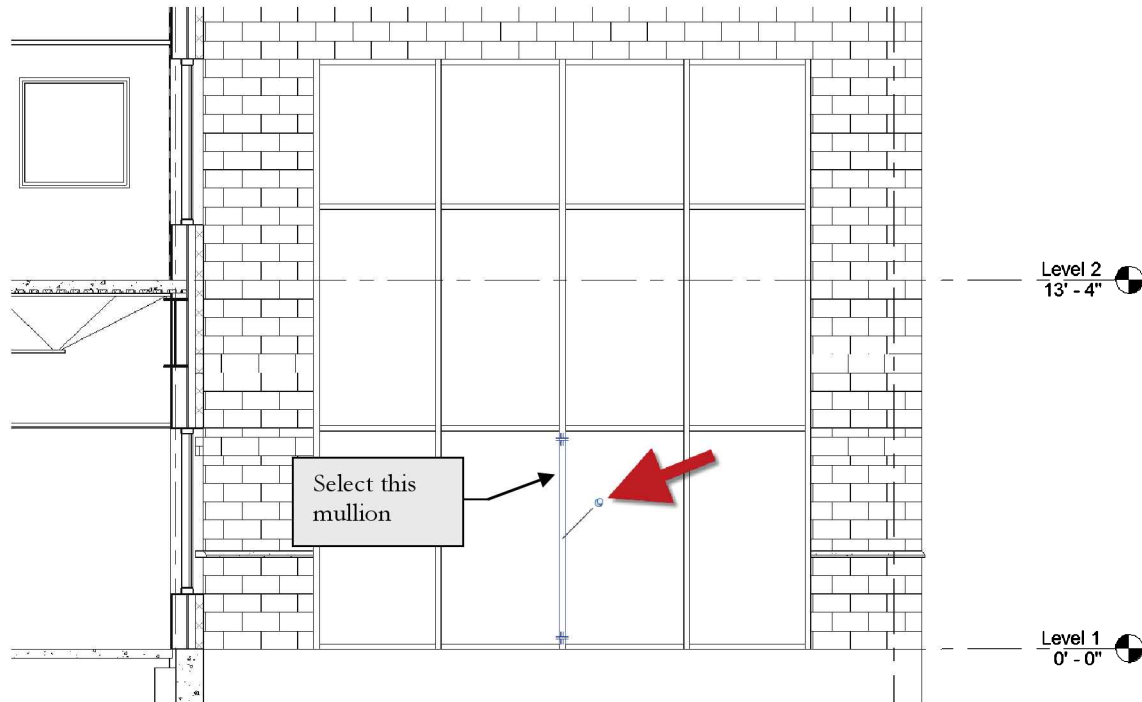

FIGURE 10-3.6 Cross Section 1 – main entry curtain wall area
14. Select the vertical mullion shown in Figure 10-3.6.
15. Click the **Pinned** symbol pointed out in Figure 10-3.6 to unpin the selected mullion.